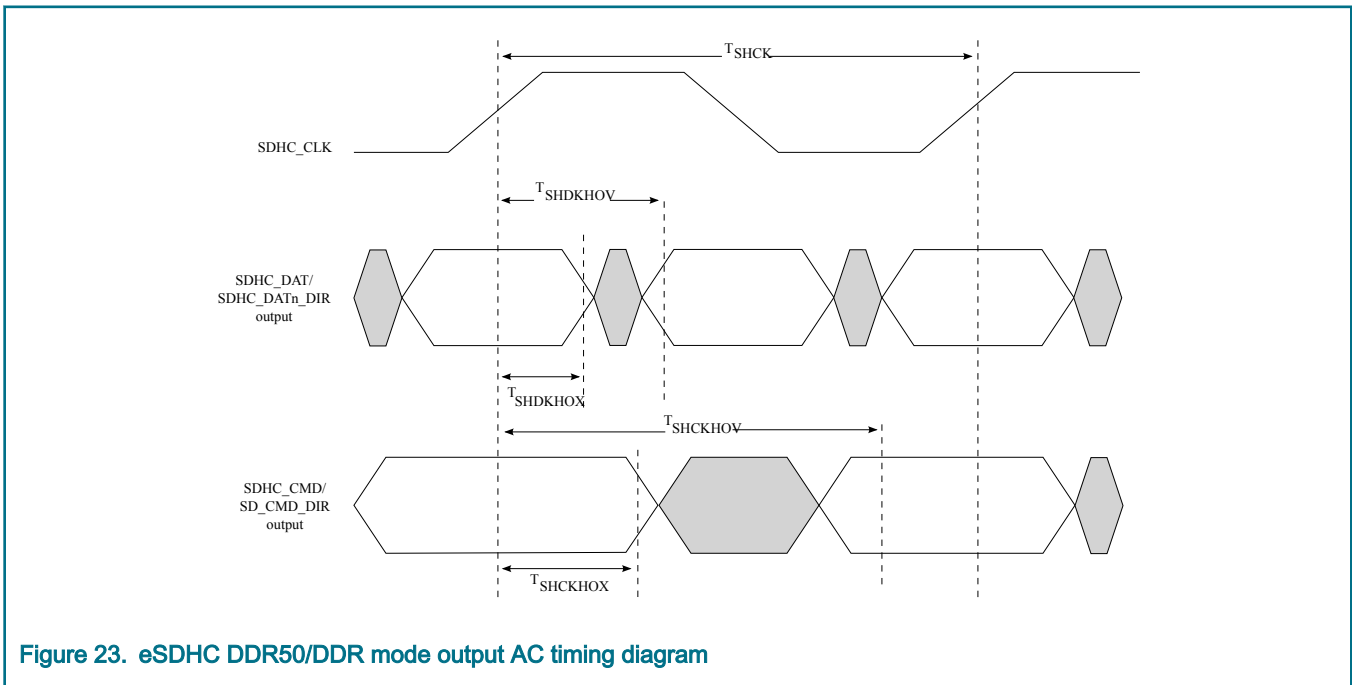

Figure 23. eSDHC DDR50/DDR mode output AC timing diagram
5. See Figure 23.
4. See Figure 23.